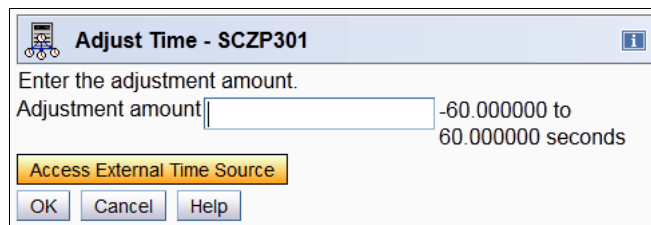

Figure 6-112 Adjust Time window - Select Access ETS
2. Click **Adjust Time** to open the Adjust Time window (Figure 6-112).